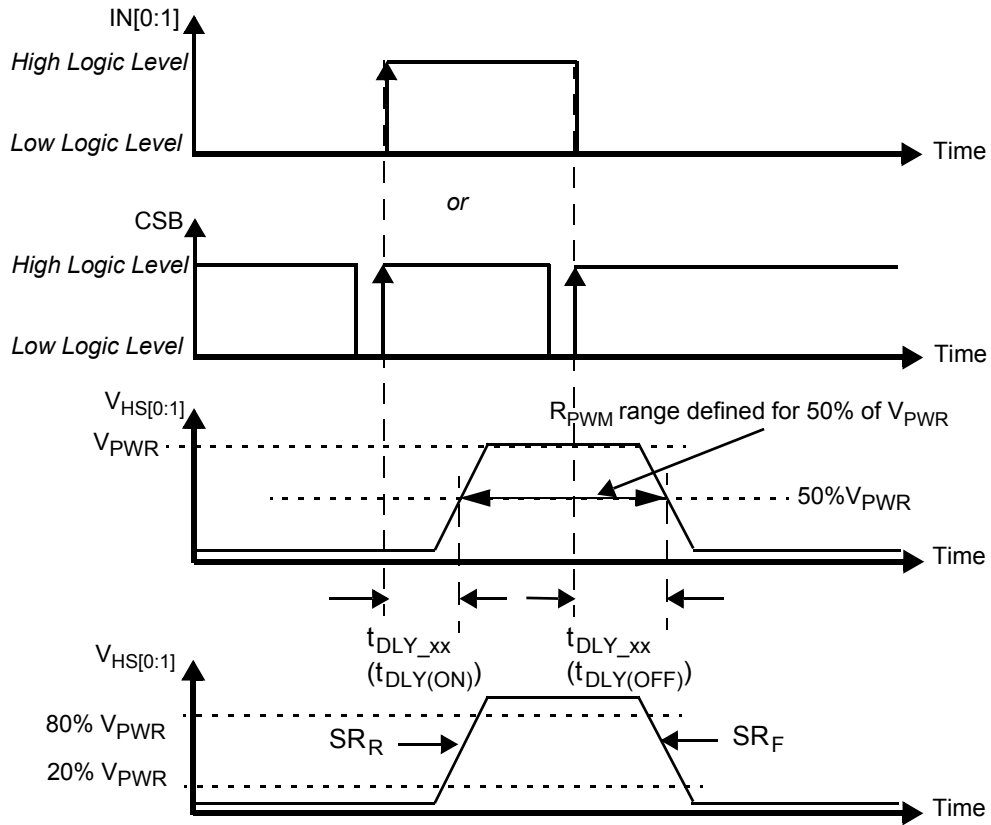
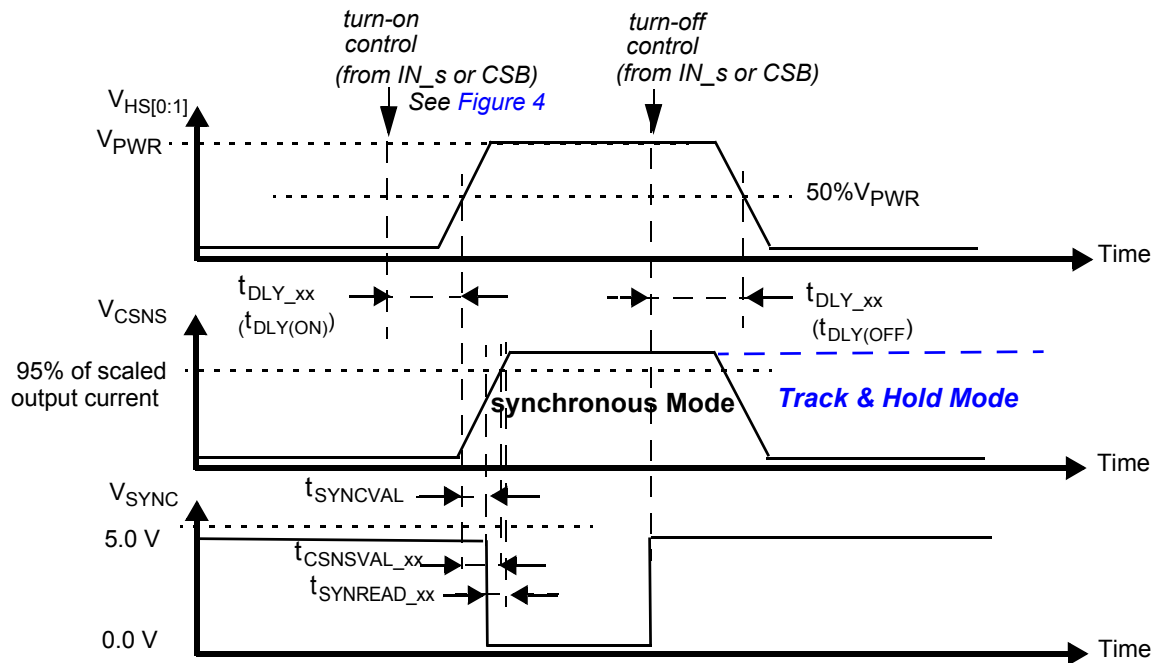

Figure 4. Output Voltage Slew Rate and Delay
Figure 9. Synchronous & Track-and-Hold Current Sensing Modes: Associated Delay & Settling Times
- Rising and Falling edge slew rates specified for a 20 to 80% voltage variation on a 10  $\Omega$  resistive load (see Figure 4).
- Time required to switch off the channel after detection of overtemperature (OT), overcurrent (OC), SC or UV error (time measured between start of the negative edge on the FSB pin and the falling edge on the output voltage until  $V(\text{HS}[0:1]) = 50\%$  of  $V_{PWR}$ ).
- Settling time ( $= t_{CSNSVAL\_XX}$ ), SYNC output signal delay ( $= t_{SYNCVAL\_XX}$ ) and Read-out delay ( $= t_{SYNREAD\_XX}$ ) are defined for a stepped load current using a 10  $\Omega$  resistive load for  $\text{CSNS\_RATIO\_s} = 0$ . (see Figure 9 and Output Current Monitoring \(CSNS\)).
The CS pin allows independent current monitoring of channel 0 or channel 1 up to the steady-state overcurrent threshold. It can also be used to sense the device temperature. The different functions are selected by setting bits CSNS1\_en and CSNS0\_en to the appropriate value (Table 22). When the CSNS pin is sensed during switch-off in the (optional) track & hold mode (see Figure 9), it outputs the scaled value of the load current as it was just before turn-Off. When several devices share the same pull-down resistor, the CSNS pins of devices, the current of which is not monitored, must be tri-stated. This is accomplished by setting CSNS0\_en = 0 and CSNS1\_en = 0 in their GCR register (Table 11). Settling time ( $t_{CSNSVAL\_XX}$ ) is defined as the time between the instant at the middle of the output voltage's rising edge ( $HS[0:1] = 50\%$  of  $V_{PWR}$ ), and the instant at which the voltage on the CSNS pin has settled to  $\pm 5.0\%$  of its final value. Anytime an overcurrent window is active, the CSNS pin is disabled (see Overcurrent Detection on Resistive and Inductive Loads). The current and temperature sensing functions are unavailable in Fail-safe mode and in Normal mode when operating without the  $V_{DD}$  supply voltage. In order to generate a voltage output, this pin requires a pull-down resistor ( $R(CSNS)=1.0\text{ k}\Omega$  typ. and  $470 < R(CSNS) < 10\text{ k}$ ). When the current sense resistor connected to the CSNS pin is disconnected, the CSNS voltage is clamped to  $V_{CL(CSNS)}$ . The CSNS pin can source currents up to about 5.6 mA.
To synchronize current sensing with an external process, the SYNC signal can be connected to a digital input of an external MCU. An open-drain pull-down on SYNC indicates that the current sense signal is accurate and ready to be read. The current sense signal on the CSNS pin has the specified accuracy  $t_{SYNREAD\_XX}$  seconds after the falling edge on the SYNC pin (Figure 9) and remains valid until a rising edge is generated. The rising edge that is generated by the SYNC pin at the turn-OFF instant (internal or external) may also be used to implement synchronization with the external MCU. Parameter  $t_{SYNVAL\_XX}$  is defined as the time between the instant at the middle of the output voltage rising edge ( $HS[0:1] = 50\%$  of  $V_{PWR}$ ), and the instant at which the voltage on the SYNC-pin drops below 0.4 V ( $V_{SOL}$ ). The SYNC pins of different devices can be connected together to save micro-controller input channels. However, in this configuration, the CSNS of only one device should be active at a time. Otherwise, the MCU is not be able to determine the source of the SYNC signal. The SYNC pin requires an external pull-up resistor to  $V_{DD}$ .